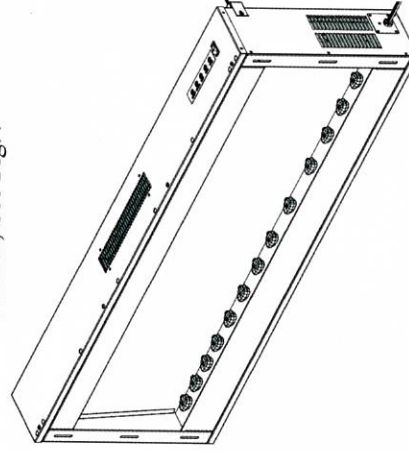

Fig.4
- Put the crystal to the white boarder; See Fig.4